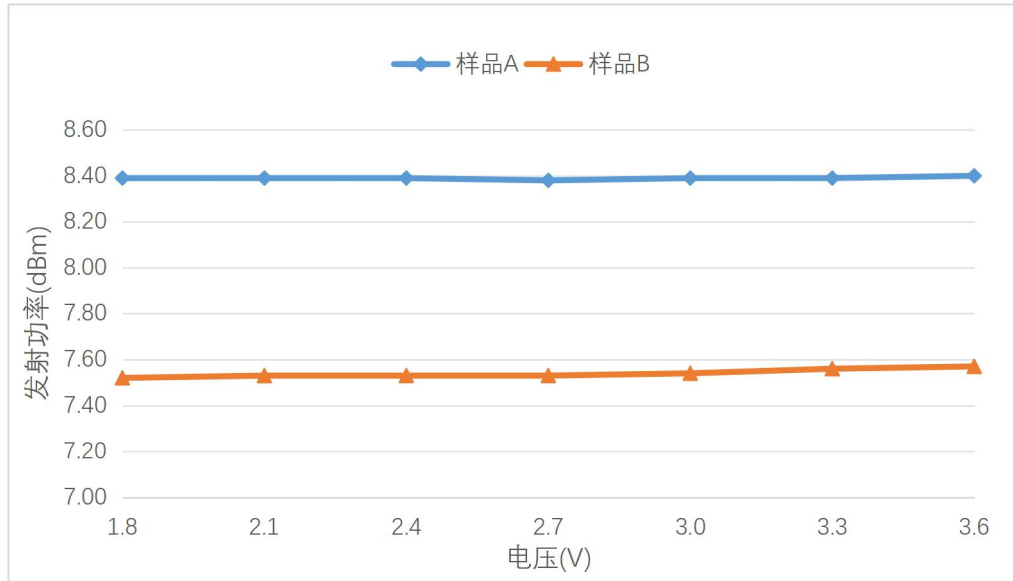
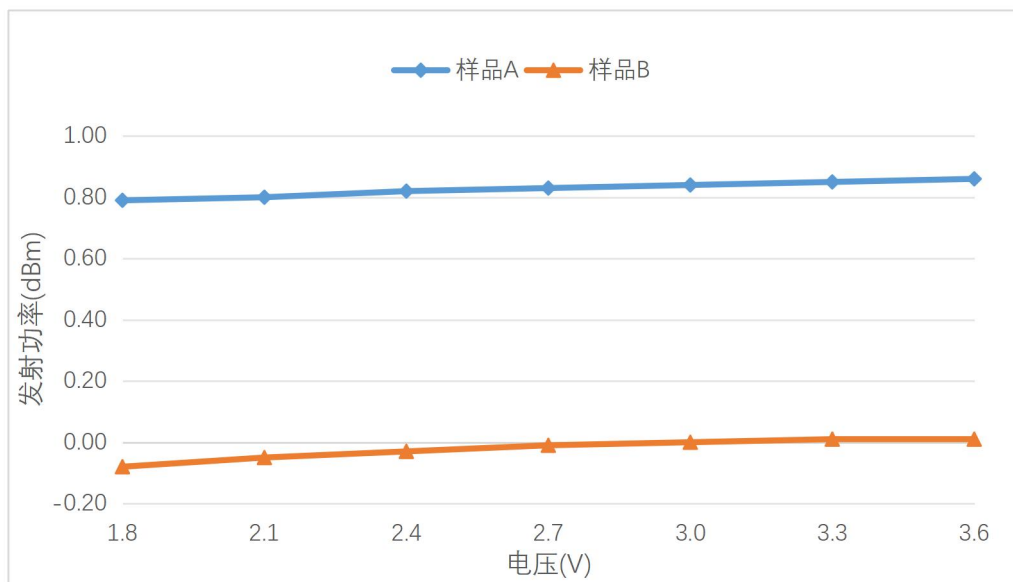

Figure 4.1 Transmit Power vs. Supply Voltage @ Power Configuration 8dBm, 25°C
Figure 4.2 Transmission Power vs. Supply Voltage @ Power Configuration 0dBm, 25°C
- (1) Test conditions for Table 4-1: Temperature 25° C, power supply voltage 3.3V;
- (2) The transmission power of the module under different voltages at 25°C is shown in Figure 4.1 and Figure 4.2.